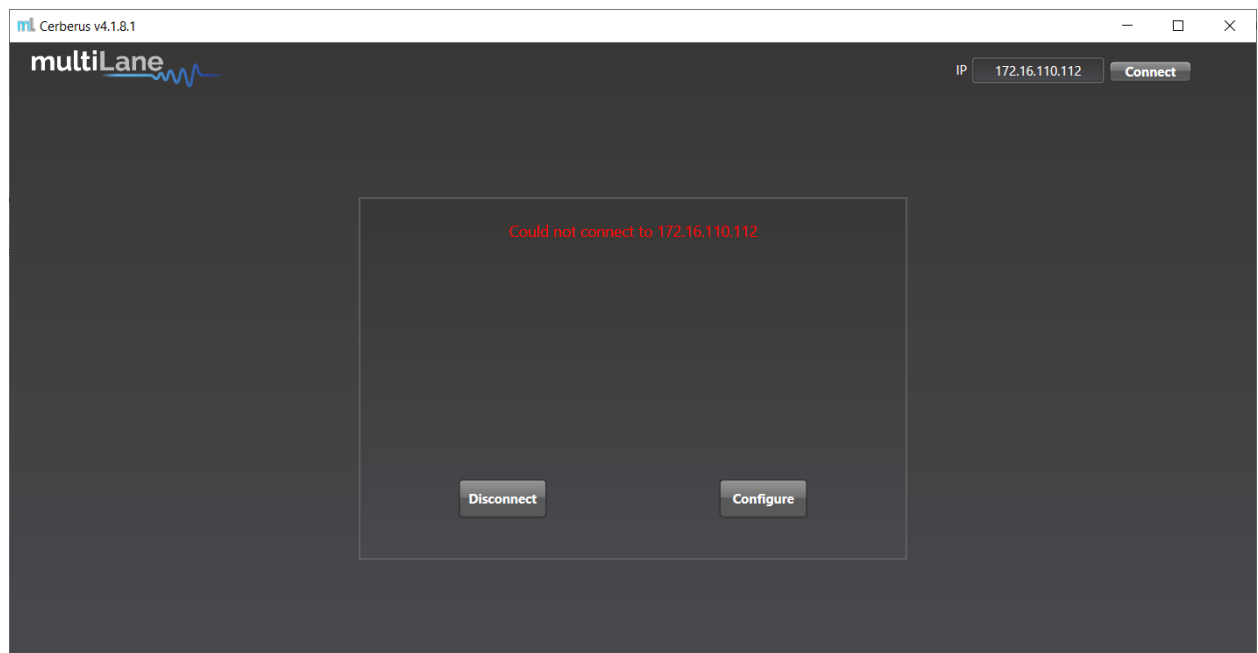

Figure 3: Connection failure notification
- In the case of a connection failure, a pop-up message will appear indicating a connection error (Figure 3).